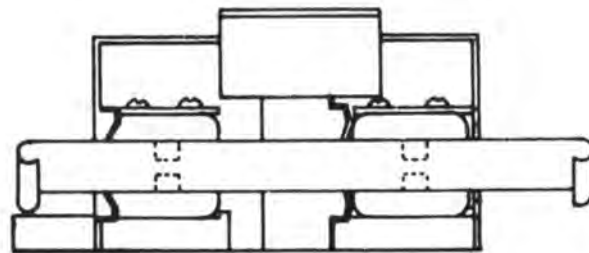

Figure 5-5. Head Assembly, Tape Guide
d. As an alternate method of height adjustment, a strip of clear mylar may be prepared by removing the lubricant and oxide from a short length of 1/4 inch recording tape. Flux remover or shellac thinner will loosen the oxide (use in a well ventilated area) so that it may be wiped off the transparent mylar base. Position the mylar tape across the head faces and properly engage it in the tape guides (figure 5-5). This is the position of the tape when a cartridge is being played on the machine. In order to free one hand to make adjustments, fasten the mylar tape to the side of the guide bracket opposite from the head which is being adjusted. Proper tape position in the tape guide is at the point where minimum distortion of the tape is observed. Distortion of the tape is due to the tape contacting the guide, and is visible as a slight crinkle at either the top or the bottom of the tape. With one hand, hold the mylar in a position contacting the heads as shown in figure 5-5.